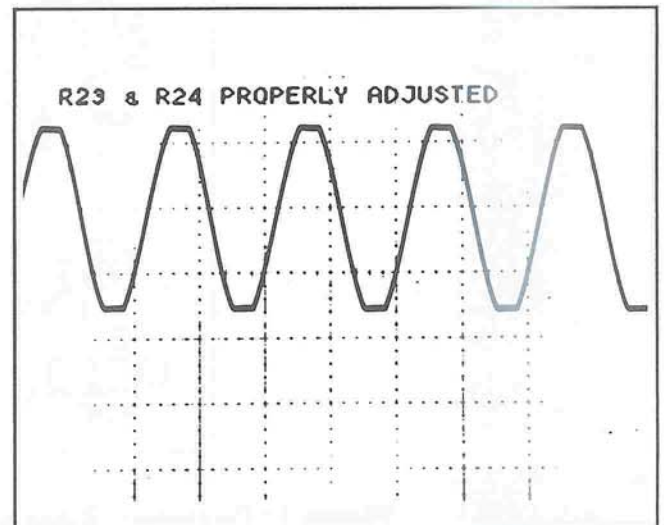

Figure 11 Properly Adjusted Pos and Neg Current Limit
- Shown in Figure 11 is an asymmetrically clipped waveform caused by an improperly adjusted positive current limit as determined by R24. Had R23 been properly adjusted, the negative half of the waveform would be clipped as well, but its degree of clipping is a function of R23 only and is independent of R24.
9. If R23 and R24 are properly adjusted, the channel should clip symmetrically (@ 1% THD) at approximately 1000 watts as shown in Figure 11.